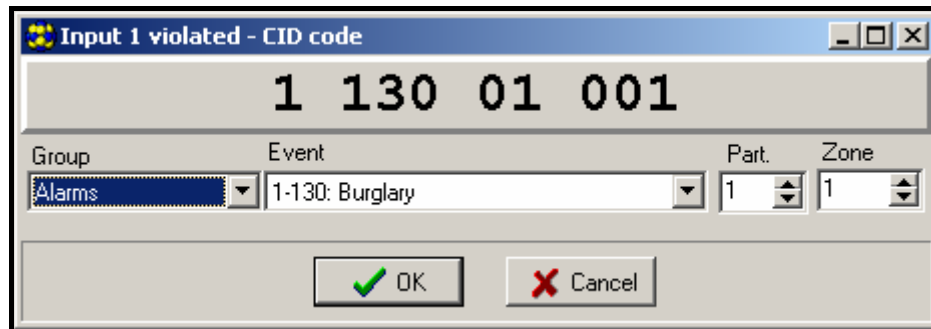

Figure 12. View of the CID code generator.
- **CID (Contact ID)** – requires entry of information describing the event (columns **CODE** event code, **R** – violation/restore, **Part.** – partition, **No.** – input number). For this purpose, you can use the code generator (see Fig. 12), started by clicking on the  button: